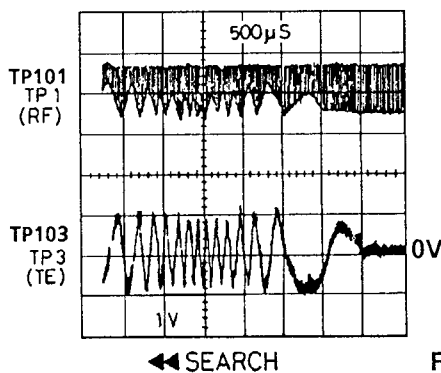

Fig.1
4. Adjust SVR11 so that the TE (Tracking Error) signal waveform of TP3 on the oscilloscope is vertically symmetrical relative to 0V. (See figure as follows Fig.1)